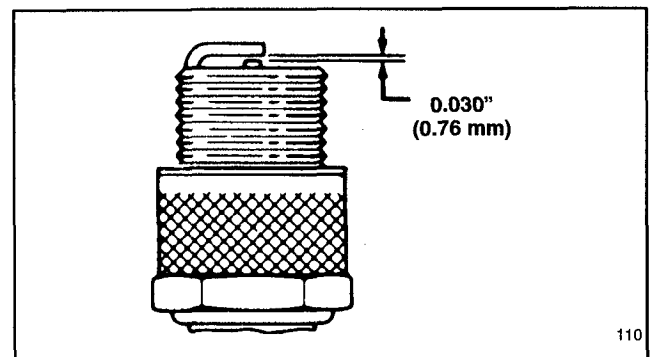

Figure 12
3. Set air gap at 0.030" (0.76 mm) (Fig. 12). Install correctly gapped spark plug and gasket seal. Tighten plug firmly to 14 ft-lb (19 N·m).